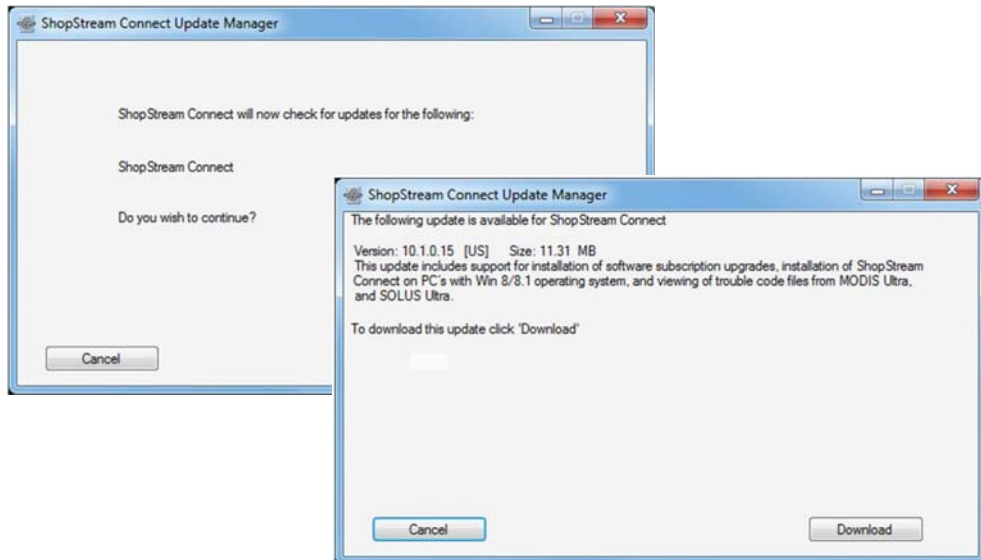

Figure 9-2
2. If updates are available, select **Next** to continue, then select **Download** and follow the on-screen instructions to complete the installation (Figure 9-2).